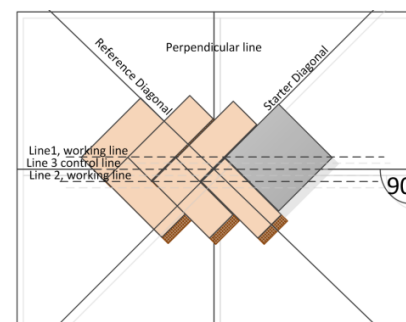

Figure 4
5. Strike the two working lines alongside the main control line (Figure 4) and begin by laying out a few alternating slats.
1. To begin installation on working Line 2 (See Figure 4), cut a square piece of plywood the size of the herringbone pattern.